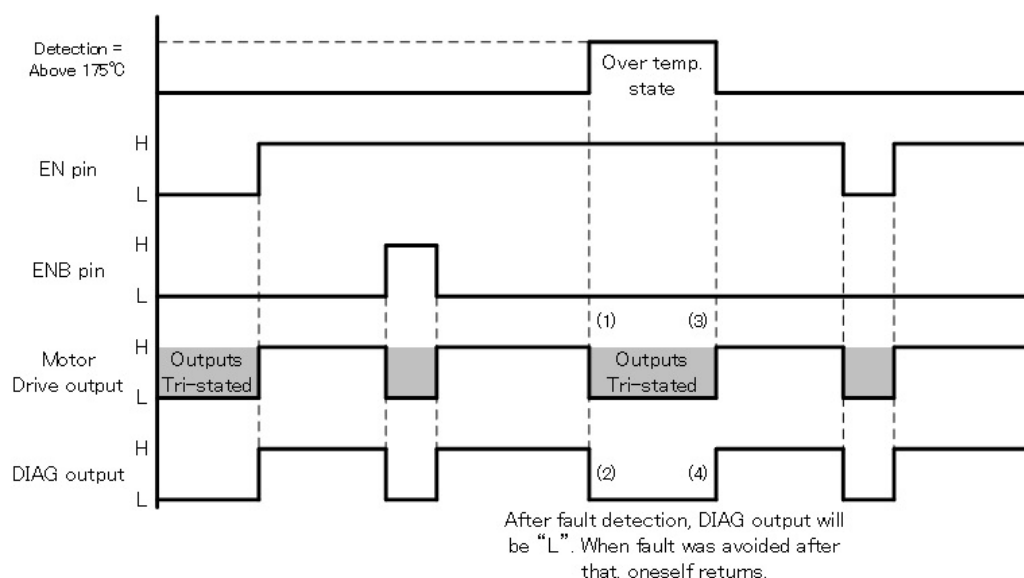
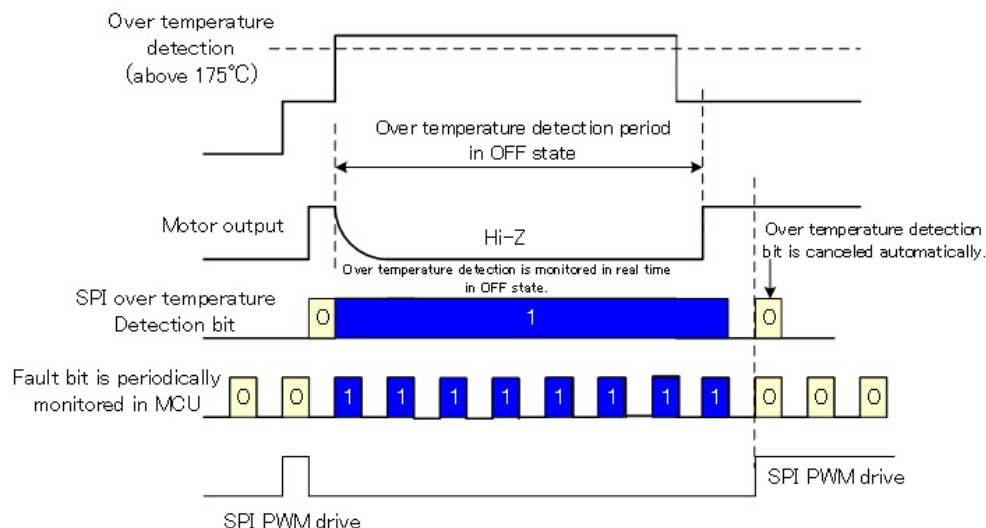

Figure 7.40 Over-temperature detection timing chart
Figure 7.41 Over-temperature detection detailed timing chart
7.14. Over-temperature detection circuit (Figure 7.40 and Figure 7.41)